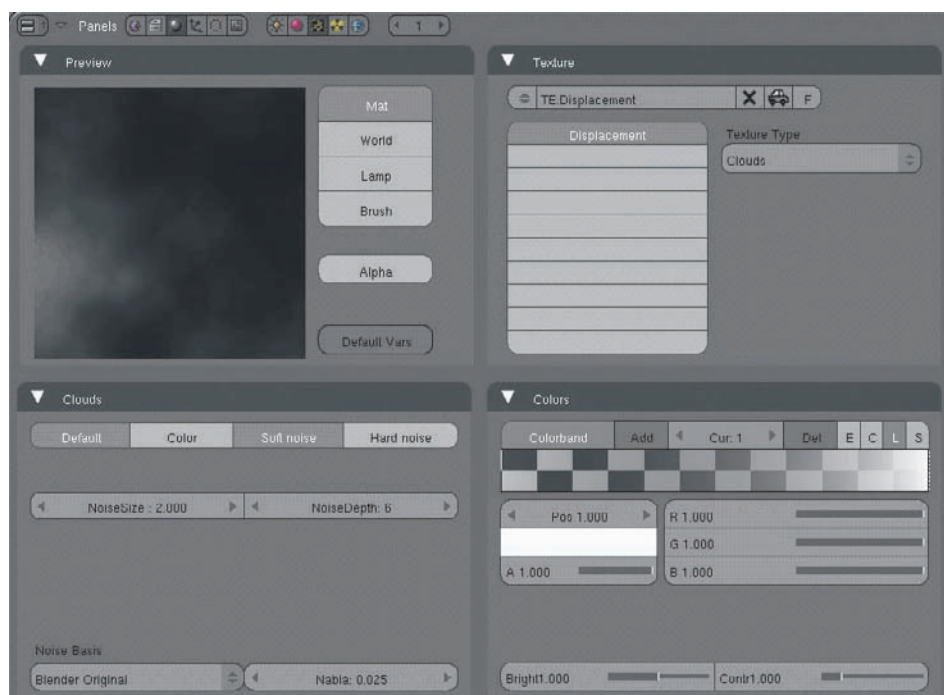
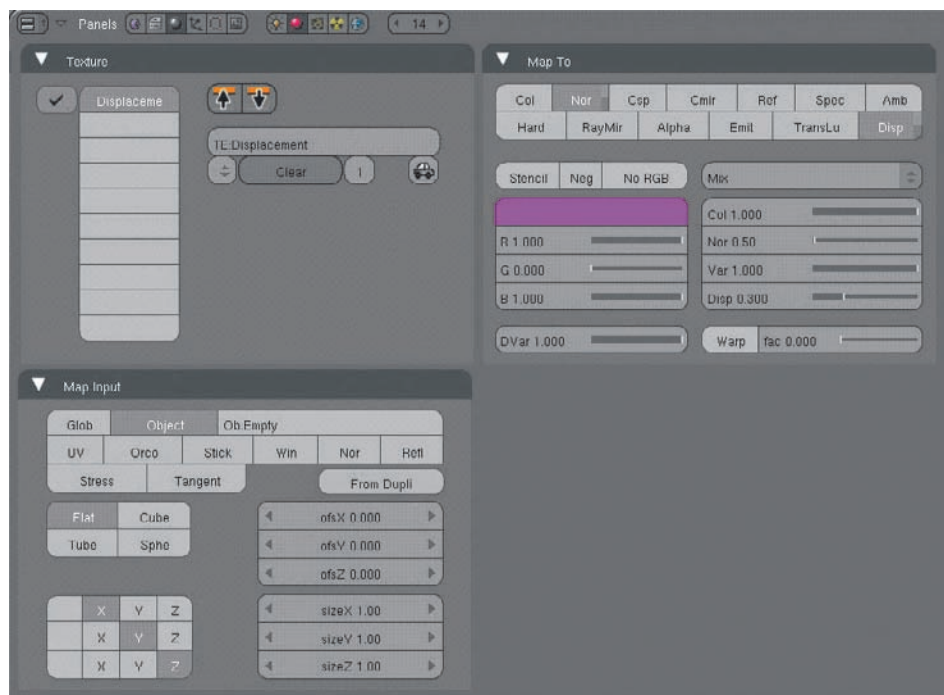
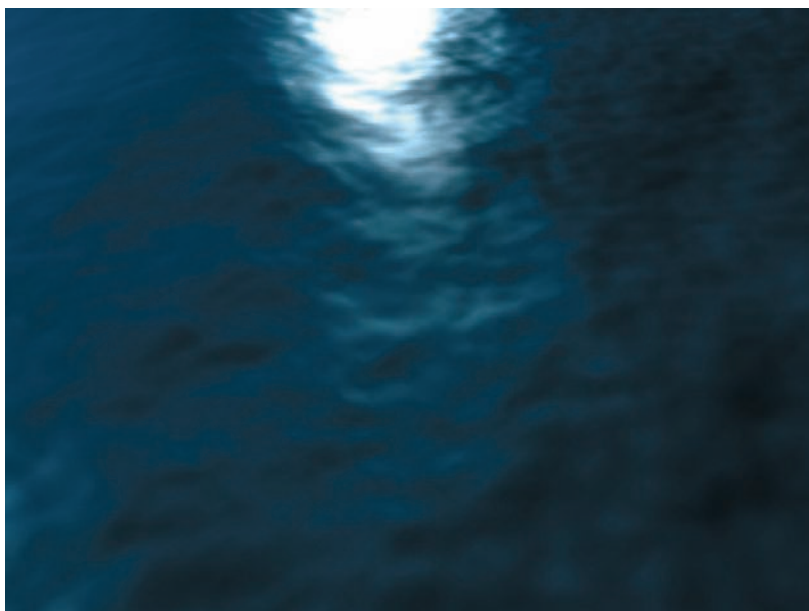

Figure 1.34 Displacement texture
Figure 1.35 Texture mapping settings for the Displacement texture
Figure 1.36 Test render
4. Everything else to be done for the ocean surface effect from here on involves adding textures and texture effects. First, add an Empty object at the center of the plane. Snap the cursor to the plane by pressing Shift+S and selecting Cursor To Selected. Add the empty by pressing the spacebar and choosing Add > Empty, and then press Alt+R to clear the rotation of the empty (this is not necessary if you add the empty in top view). Create the first texture for your ocean surface material and map it by using the Empty object. Make the texture a soft noise Clouds texture with settings as in Figure 1.34 and name it **Displacement**. Map it to Nor and Disp with the values shown in Figure 1.35, and set the Disp value in the texture to 0.3. This will add one more level of displacement waves to make the movement of the surface even more uneven. Scale the Empty up a factor of 3 by pressing the S key and 3. Run a test render and make sure your surface looks something like Figure 1.36. If not, back up a bit and figure out where yours is different.